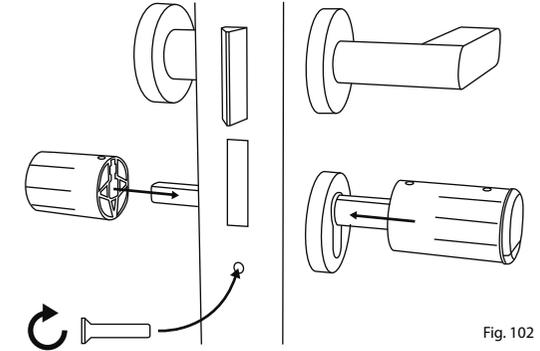

Fig. 102
- 5 Screw the cylinder into the door and push the inside and outside knobs up to the door (Fig. 102).